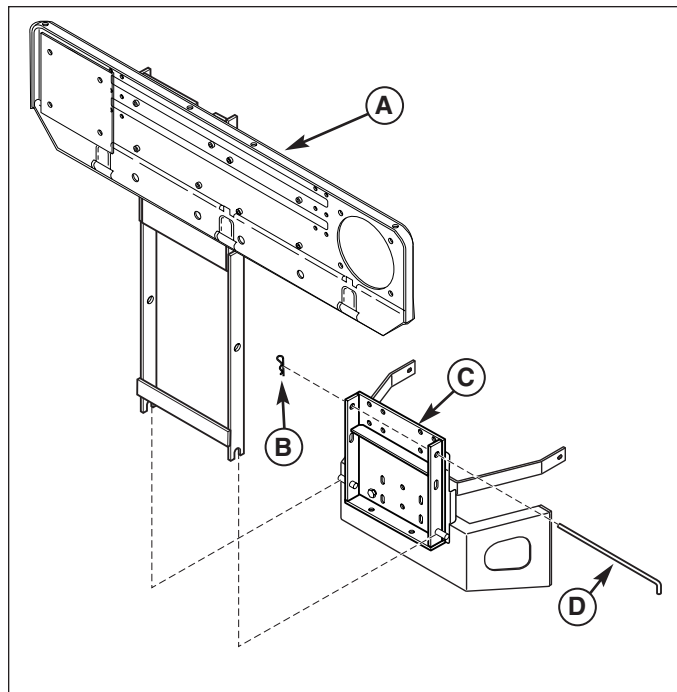

Figure 3. Install Back Plate
4. **Warning: Back plate (A) will fall when rod (D) is removed.** Remove the hair pin (B, Figure 3) and rod (D) while holding back plate (A).
5. Lift the back plate and support assembly (A, Figure 3) off hitch plate (C).